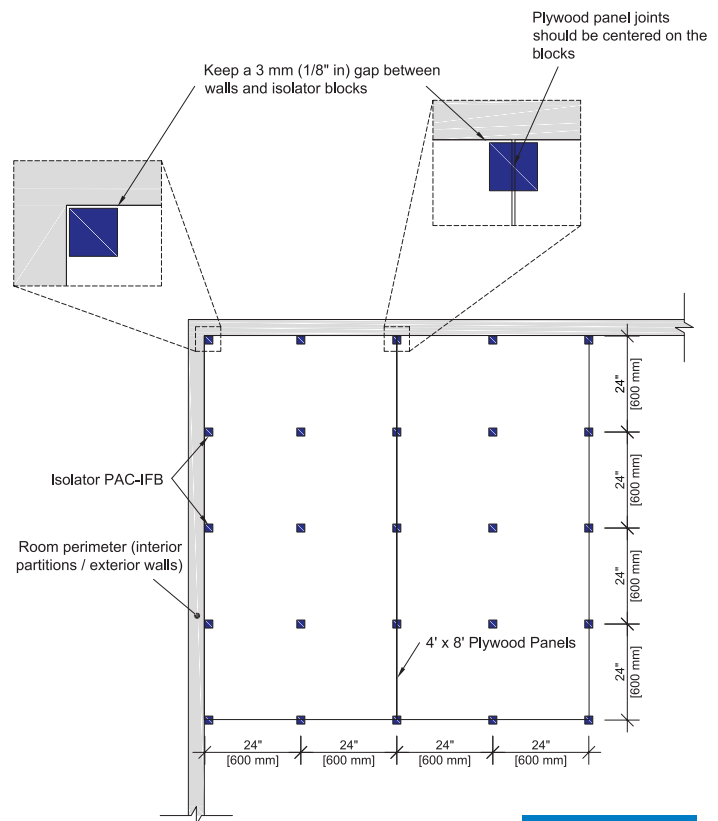

Figure 1
Place the first row of **IFB** blocks at a distance of **3 mm (1/8 in) to 6 mm (1/4 in)** from the walls. This distance helps to avoid contact that could affect the acoustic performance of the system. (Fig. 1)
Place the **second row** of **IFB** blocks **60 cm (24 in) c/c** from the outer edge (wall side) of the blocks in the first row (Fig. 1 and 2).
- Subsequent rows of **IFB** blocks should be spaced **60 cm (24 in)** c/c from the previous row (Fig. 1) or **every 30 cm (12 in)** for **ceramic tile sections in kitchens or bathrooms**.